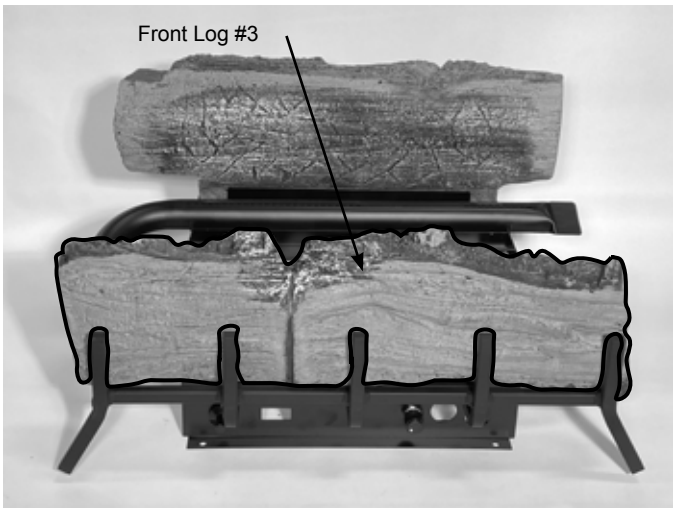

Figure 6.2 - Place Front Log
2. Place Front Log (#3) between burner and grate. Use tab on right side as guide on grate. Figure 6.2